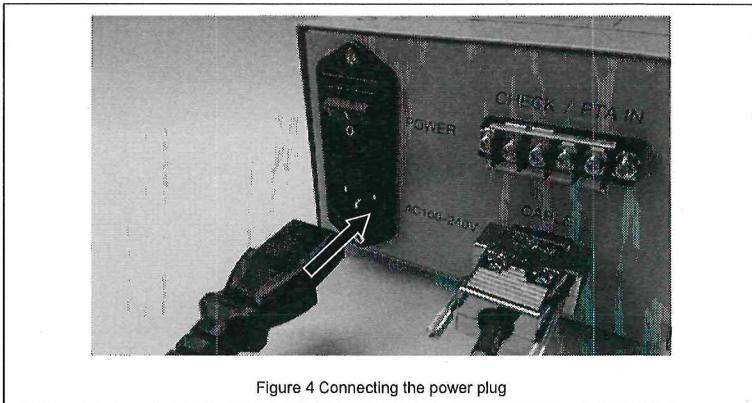

Figure 4 Connecting the power plug
- 3) Check the power supply voltage value marked on the power socket on the OCR checker and plug the power plug (square connector) into the power socket on the OCR checker. (See Figure 4 below.)